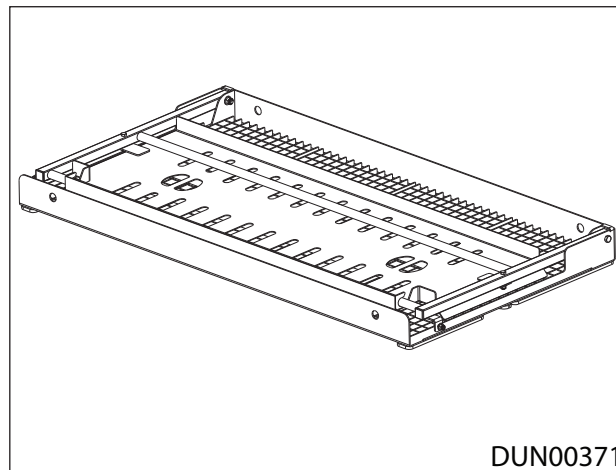

Figure 5.21 - Rear Handrail Folded into Transport Position
3. Rotate the rear hand rail down to the transport position, Ref: Figure 5.21.